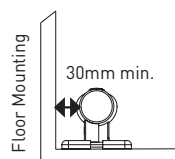

Fig.6
- Follow the minimum clearances around the heater as shown in [Fig.6].